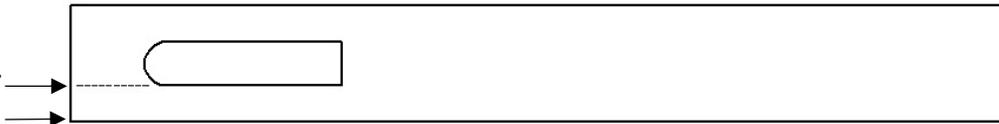

Figure 22: Offset Dimension, 3/8" Minimum
Pocket Holes should be positioned at least 5/8" in from end of stock (Web, Figure 21) and a minimum of 3/8" (Offset, Figure 22) from edge. This provides for a strong joint. Stock wider than 1-1/4" should have a minimum of two pocket holes and more pocket holes if over 3" wide. When joining cabinet sides to a face frame, or other large panel processing, pocket holes should be spaced every 6-8" and 2" in from the end (offset).
5. Confirm pocket is “Offset” (Figure 22) a minimum of 3/8” from side of material.